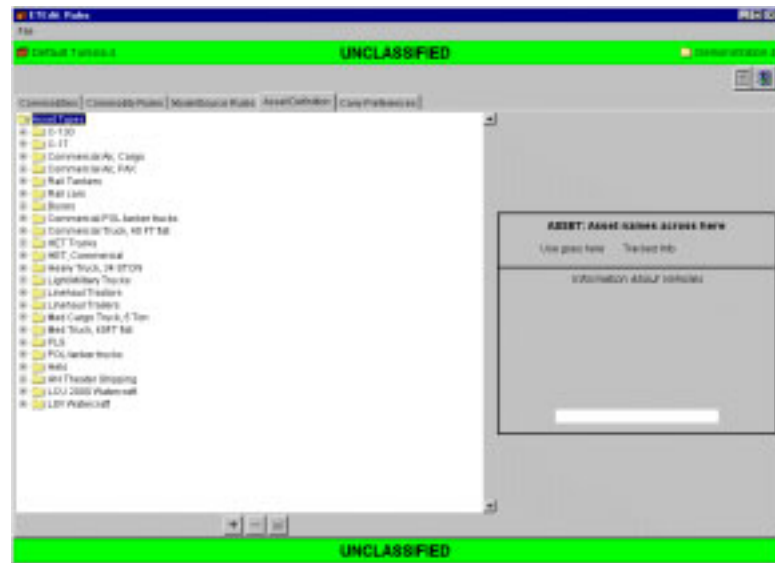

Figure 5.129 ETEdit Rules Window (Asset Definition Tab)
3. As needed, on the ETEdit Rules window, click the Asset Definition tab. The contents of the Asset Definition tab are displayed (Figure 5.129). The three buttons at the bottom of the window are gray if no assets have been defined for this rule. In other cases, a hierarchy tree is displayed, which shows the types of assets (folder icons) with individual assets within the folders.